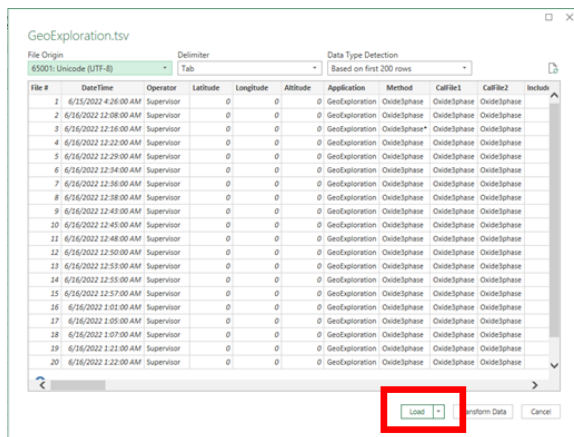

Figure 18. Data Preview
5. A window will open showing you a preview of the file and you have to click **Load**. (Figure 18)